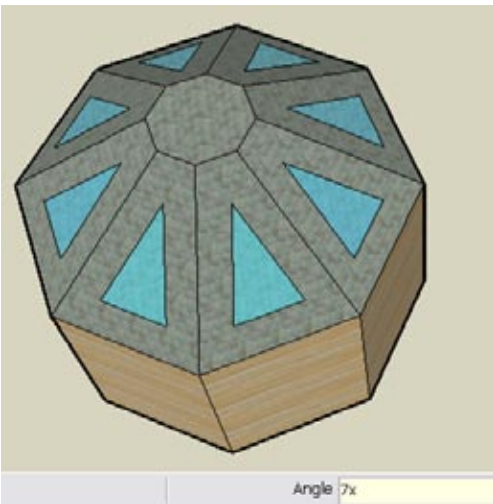

Figure 1-46
- Enter $7x$, and you have eight total windows (Figure 1-46).